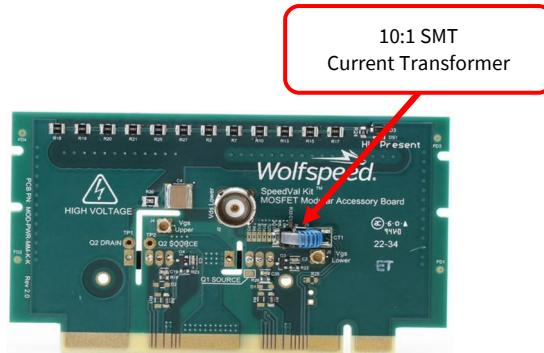

FIGURE 13: POWER DAUGHTER CARD WITH CT
A 10:1 SMT current transformer (CT) is included with the half-bridge motherboard. This CT can be mounted on any of the power daughter cards instead of using the SMT shunt resistors as shown in Figure 13. The output of this CT is fed through CON11. A wire harness is needed to connect pin 1 of CON11 through the aperture of a high-bandwidth current transformer and back to pin 2 of CON11. Figure 14 shows the wire harness and a high-bandwidth AC current transformer connected.